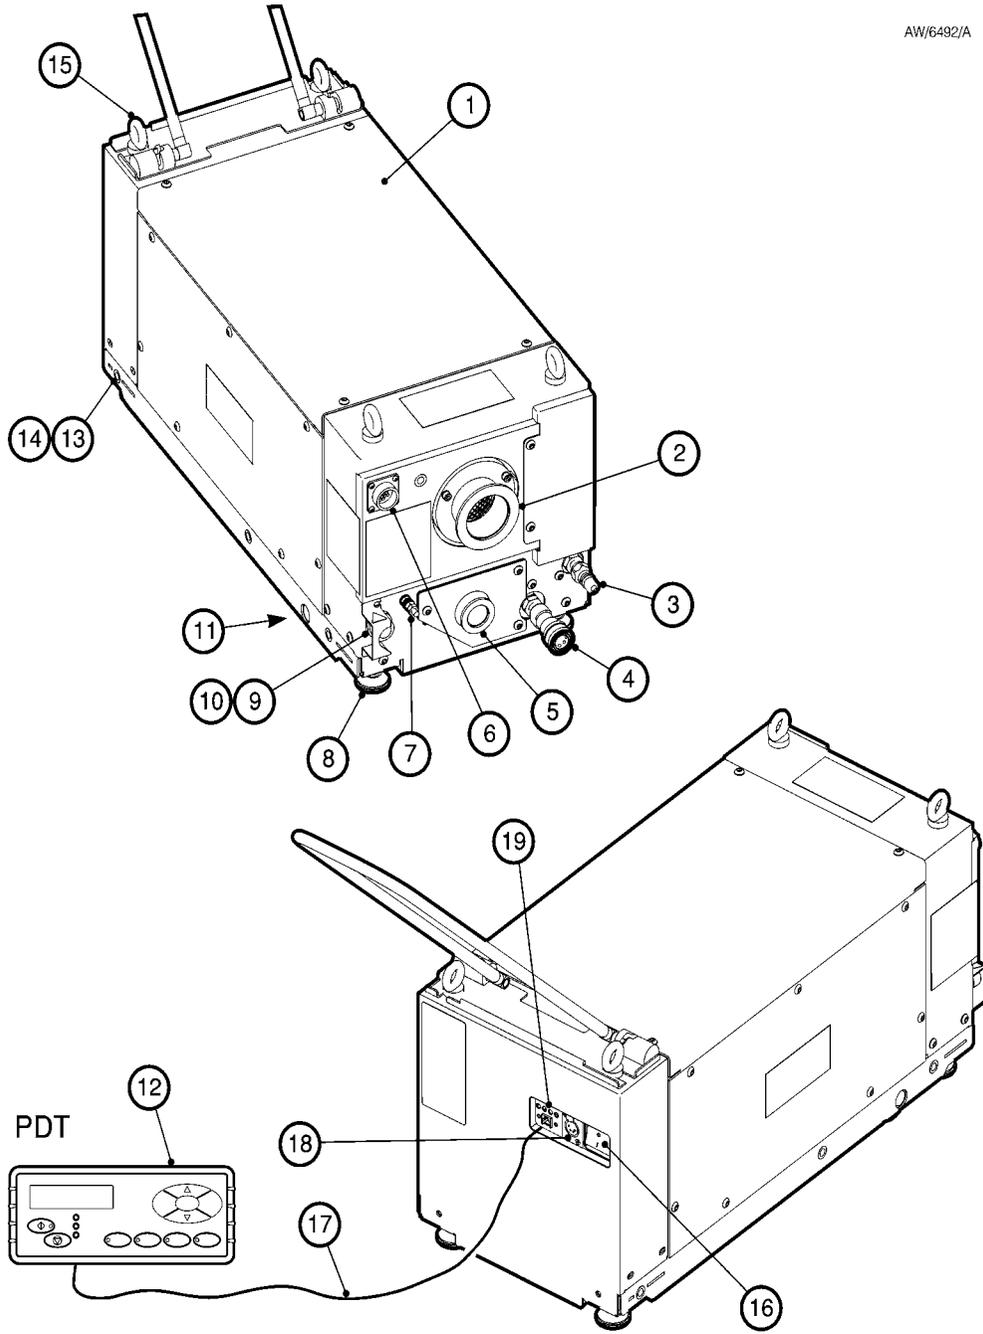

Figure 2 - IPUP E100L
This manual provides installation, operation and maintenance instructions for the IPUP E100L, the IPUP E100Li and the IPUP E100L (Hardwire). These are the BOC Edwards Load Lock, and Load Lock Interstage IPUP Dry Pumping Systems. Refer to Figures 2, 3 and 4 for views of the pumps. You must use the IPUP E100L, the IPUP E100Li and the IPUP E100L (Hardwire) as specified in this manual.
Refer to Figure 2 for front and rear views of the IPUP E100L. The identification key for the components is given in Table 1.
The Amphenol connector (Figure 2, item 10), on the IPUP E100L has been replaced with a connection box that incorporates ring lug fixings for the three phases and earth. This allows the IPUP E100L (Hardwire) to be permanently 'hardwired' on installation. The cable clamp (Figure 2, item 9), has also been removed on the hardwire variant.
The cooling water supply and return pipelines are connected to the pump by quick fit connectors. Refer to Figures 2 and 3 (items 3 and 4).